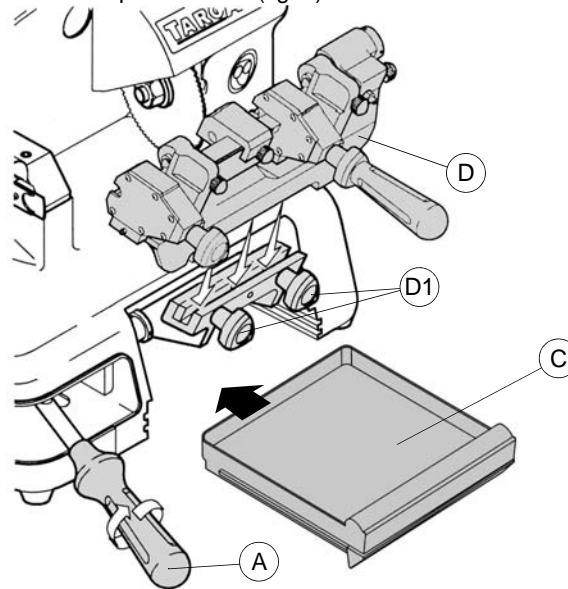

Fig. 8
Place the clamp carriage into its seating and tighten the carriage release knobs (D1) (fig. 8).
Screw the handle (A) onto the carriage lever (fig. 8).
Insert the chippings tray (C) into the special seat (fig. 8).